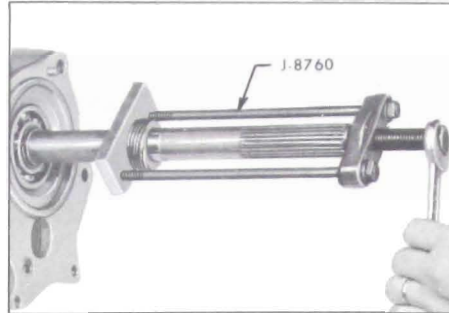

Figure 4-82—Removing Speedometer Gear
5. Remove speedometer gear with J-8760 as shown in Figure 4-82.